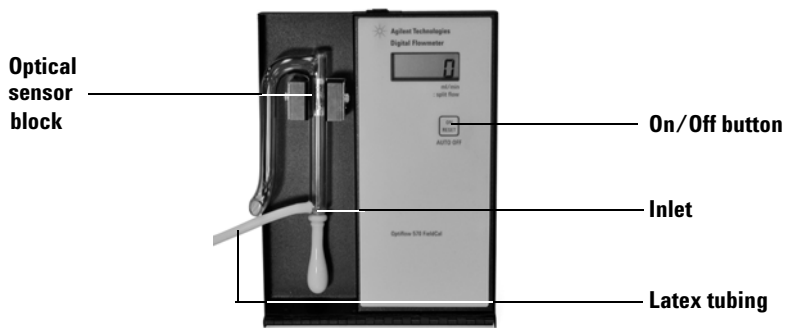
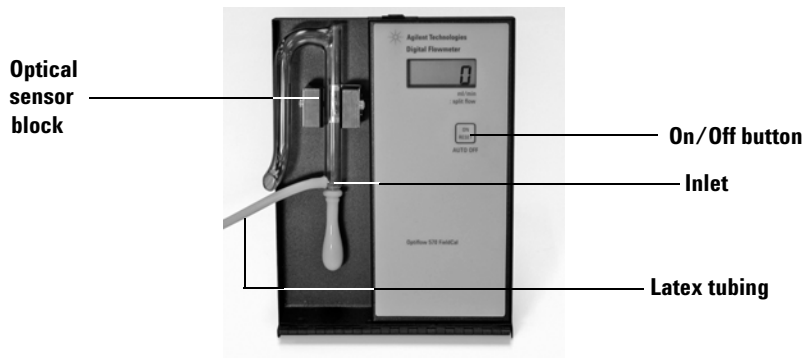

Figure 7 Positioning of Optiflow 570 Mobile Digital Flowmeter's bubble meter for faster flow rates
Figure 8 Positioning of the Optiflow 570 Mobile Digital Flowmeter's bubble meter for lower flow rates
- In general, slide the glass bubble meter to its lowest position on the stand (see Figure 7) for faster flow rates (10 mL/min or greater for Optiflow 420, Optiflow 570, and Optiflow 570 Mobile flowmeters; 500 mL/min for Optiflow 650 and Optiflow 650 Mobile flowmeters). For low flow rates, slide the glass bubble meter to its highest position on the optical blocks (refer to Figure 8).